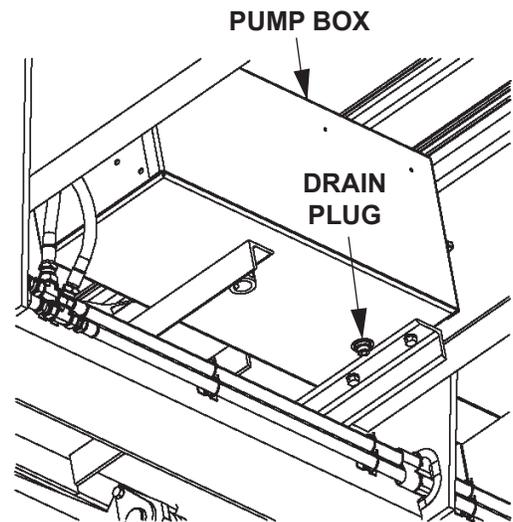

FIG. 13-1
2. Open and raise platform to vehicle bed height. Remove the drain plug (**FIG. 13-1**). Drain hydraulic fluid.